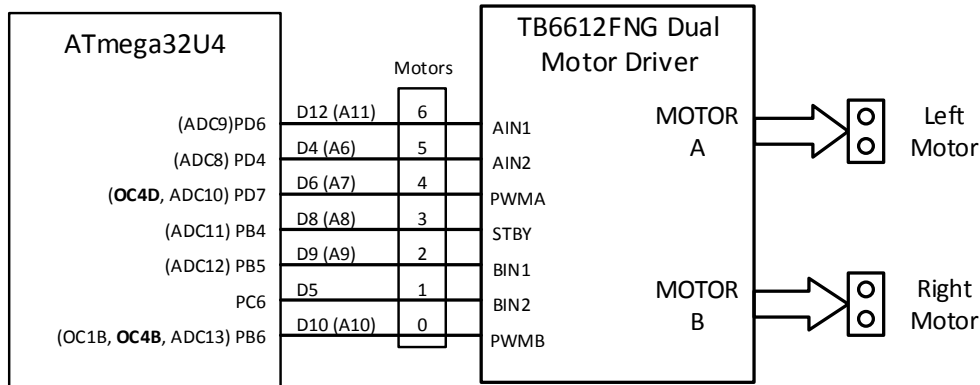
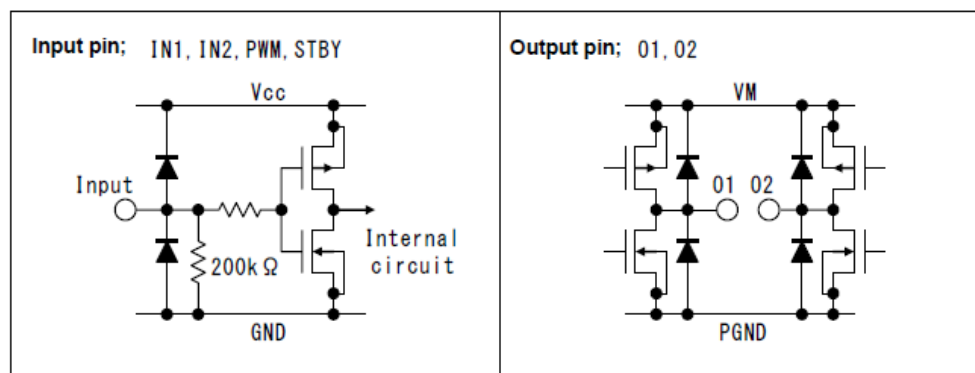
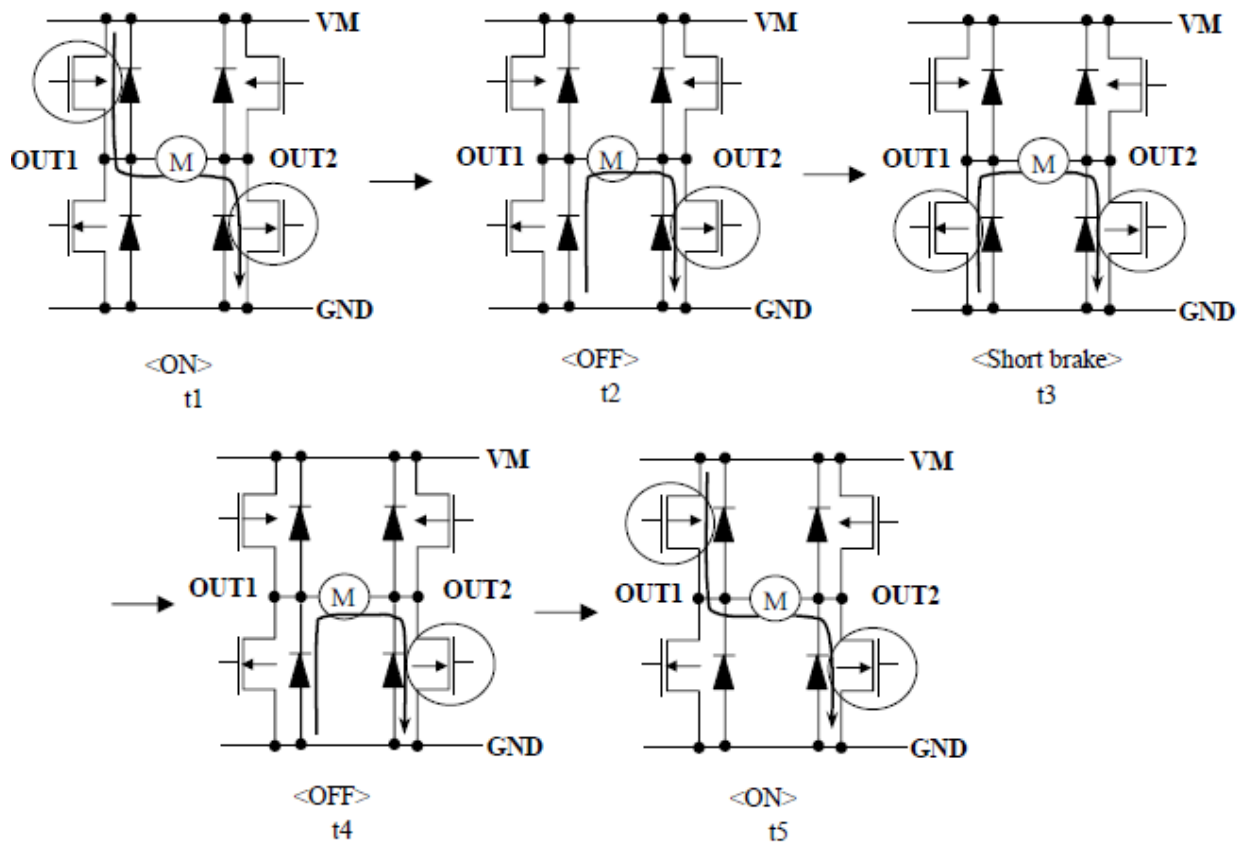

Figure 1 – Atmega32U4 to Motor Driver Interface
Figure 2 – TB6612FNG Input and Output Circuits
Figure 3 TB6612FNG H-Bridge states t1 to t5
Figure 1 “Atmega32U4 to Motor Driver Interface” shows that we can configure 2 motors where each motor has 3 control pins and a standby (STBY) pin for the entire IC. If STBY is set low then the motors are not powered regardless of the state of the other two pins. The pins attached to AIN1/2 and BIN1/2 are digital outputs that control the rotation of the motor. The PWM inputs are connect to a pins capable of a PWM output to control the speed of the motor.
For the remainder of this article use Figure 1 “Atmega32U4 to Motor Driver Interface” to help you cross-reference the *tower of babel* names used by Atmel, Arduino, and Toshiba (i.e., TB6612FNG).
The direction in which the motors turn are defined in Table 1 and illustrated in Figure 2 “TB6612FNG H-Bridge states t1 to t5.” For example, to configure Motor A to turn clockwise (CW) you would want to set the H-Bridge to state t1 (see Figure 3). This would be accomplished by setting PD6 = 1 and PD4 = 0 (see Table 1 and Figure 1). To turn counter-clockwise (CCW) you would want to set the H-Bridge to state t5. This would be accomplished by setting PD6 = 0 and PD4 = 1.
The speed of the motors A and B are controlled by changing the duty cycle of pins PWMA and PWMB respectively. With reference to Figure 1 “Atmega32U4 to Motor Driver Interface,” the speed of motor A will be controlled by Timer 4 register OC4D and motor B by Timer 4 register OC4B. The mnemonic OC n x stands for Output Compare register n x, where n is the Timer number (0, 1, 3, and 4) and x is the Compare register (Timer 4 has four (4) output compare registers designated A, B, C, and D). We will be operating our timer using “Fast Pulse Width Modulation.” *I will tell you more about these registers and modes in the coming paragraphs.*
Looking at Figure 1 “Atmega32U4 to Motor Driver Interface” again we see the PWMA and PWMB are associated with OC4D and OC4B respectively. OC4X denotes an output compare with TC4. The 32U4 has a more extensive timer system than the 328p and this timer (TC4) has 3 OCRs attached to it. Conveniently for us, both of these utilize the same timer making configuration a little more